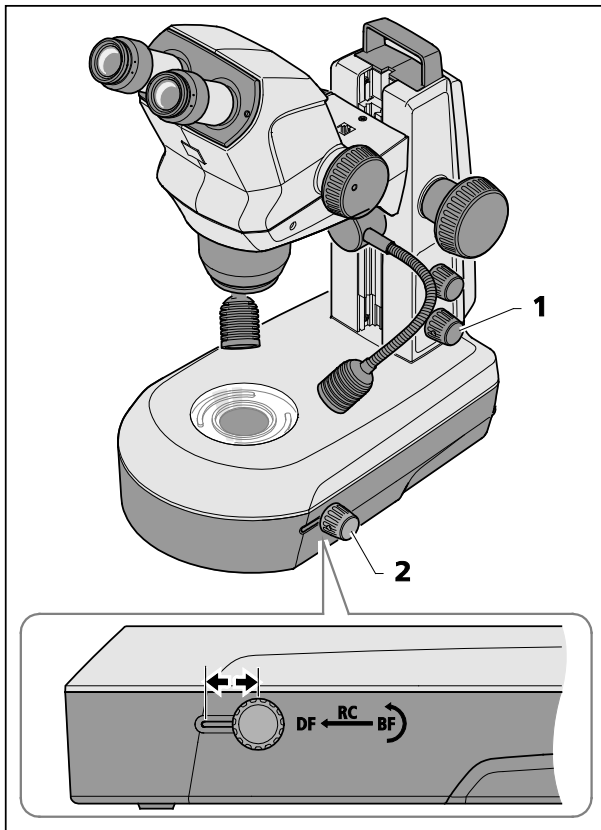

Fig. 21 Transmitted-light unit in stand K LAB
- Switch transmitted-light illumination ON by pressing the lower knob (Fig. 21/1).
- Adjust the bright field (BF) by pushing the sliding knob (Fig. 21/2) into its rear position (BF).
- Turn the rotary knob / slider (Fig. 21/2) to swing the clear or diffuse mirror in position or to adjust the inclination angle.
- Change over to dark field illumination (DF) by pushing the rotary knob / slider (Fig. 21/2) into its front position.
- ☞ Oblique light effects (RC) are produced by pushing the rotary knob / slider (Fig. 21/2) into its central position and by tilting the mirror.